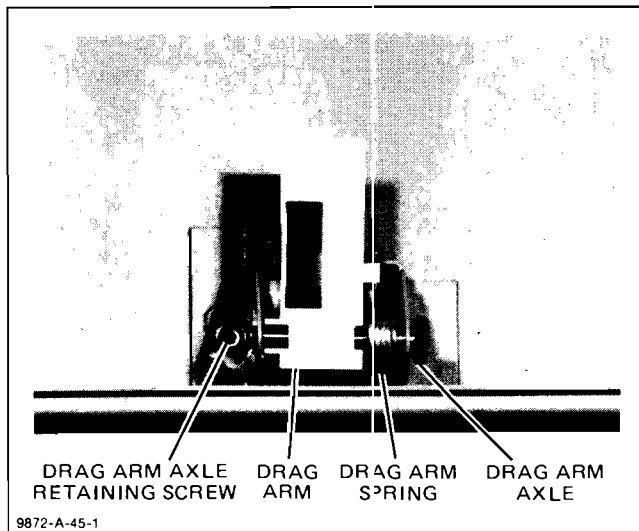

Figure A6-5. Drag Arm Removal
- c. Carefully unhook the spring end from the drag arm tab. See Figure A6-5.